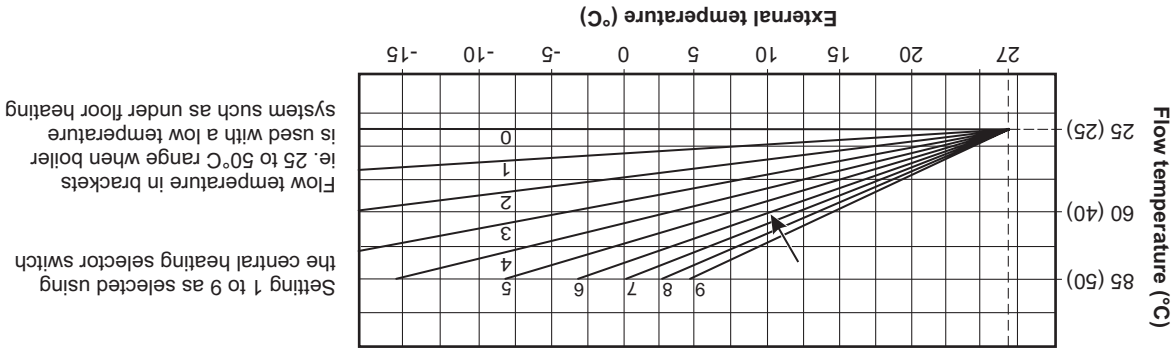
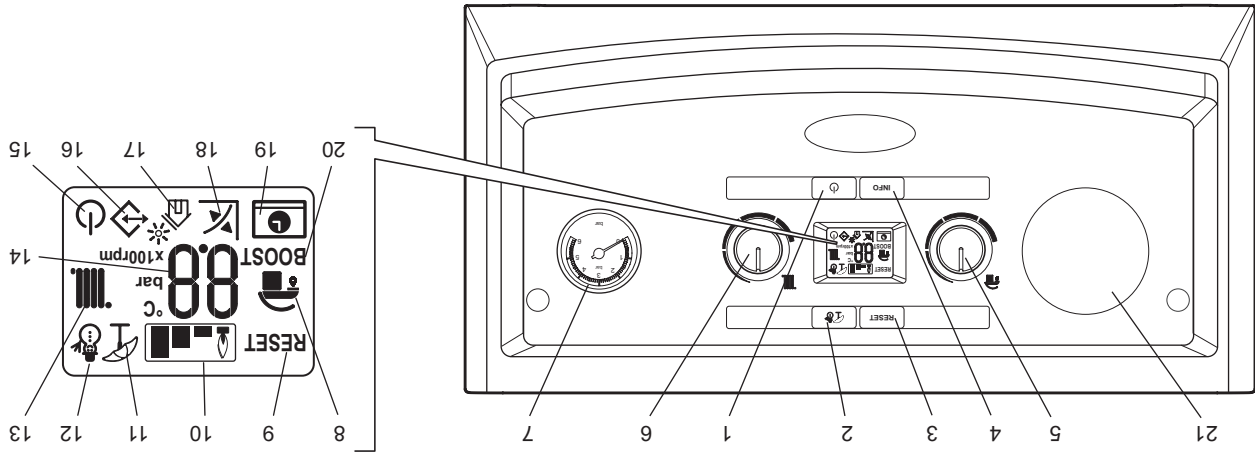

Fig. 2 - External weather compensation probe fitted
Fig. 1
If a fault occurs a fault code will be displayed in the LCD display screen (item 14 in Fig. 1), indicated with an alternating flashing E followed by the fault code. A list of fault codes are given in the table below.
Press the reset button (item 3 in Fig. 1) on the control panel to restart the boiler if the fault occurs again, make a note of the fault code and contact your installer or Alpha technical Helpline for further advice.
By pressing the info button (item 4 in Fig. 1) the information menu is accessed this will then show the information according to the table below.
The temperature of the hot water to the taps can be adjusted by turning the hot water selector switch (item 5 in Fig. 1) to the required value shown on the display in °C.
The temperature of the central heating water can be adjusted by turning the central heating selector switch (item 6 in Fig. 1). When the heating is on the temperature of the water leaving the boiler to the radiators will be displayed.
If an external weather compensation probe is fitted, indicated by the  symbol (item 18 in Fig. 1) in the display, it will automatically vary the temperature of the water in the radiators and on a mild day the radiators will not feel as hot as on a cold day, this is normal and not a fault with the boiler or heating circuit. The room temperature will still be maintained as set by the room thermostat.
When an external weather probe is fitted, the central heating selector switch (item 6 in Fig. 1) will no longer adjust the flow temperature in °C, instead the display will show a scale of 1 to 9. Each number corresponds to a line on the graph in Fig 2 i.e. line 6 will give a flow temperature of 60°C when the external temperature is 10°C.
To fill or pressurise the system open one tap fully by turning it 90° anticlockwise in line with the tap housing. The second tap should be opened a quarter of a turn and the water will start to refill the system (water should be heard filling the system). You should see the pressure gauge (item 7 in Fig. 1) rise back up into the green area on the pressure gauge between 1 bar and 1.5 bar pressure.
The boiler controls are located on the control panel. Make sure the heating system is filled and the needle on the pressure gauge (item 7 in Fig. 1) is in the green band when cold. If incorrect refer to Section 4.
Switch the boiler on at the mains supply socket switch. The boiler will automatically go through a system purging operation for 8 minutes; this is indicated by a count down on the display starting from 96. During this operation the pump will turn on and off to help remove any air that may be trapped in the heating system. If the boiler has already been commissioned by the installer then this operation can be terminated by pressing the reset button (item 3 in Fig. 1).
By pressing the On-Off button (item 1 in Fig. 1) the Standby or On mode can be selected, or press and hold the On-Off button for eight seconds to turn the boiler off.
On - In this mode the boiler can be switched between 'Summer' or 'Winter' settings by pressing the Summer/Winter button (item 2 in Fig. 1).